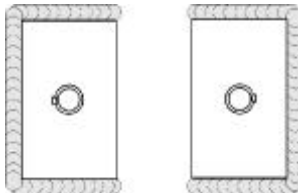

Figure 5 Weld position
3. Weld the blocks with a continuous seam weld around the outer 3 sides of each block (fig. 5). Allow to cool fully before removing the welding jig to prevent the possibility of the mounting blocks warping.